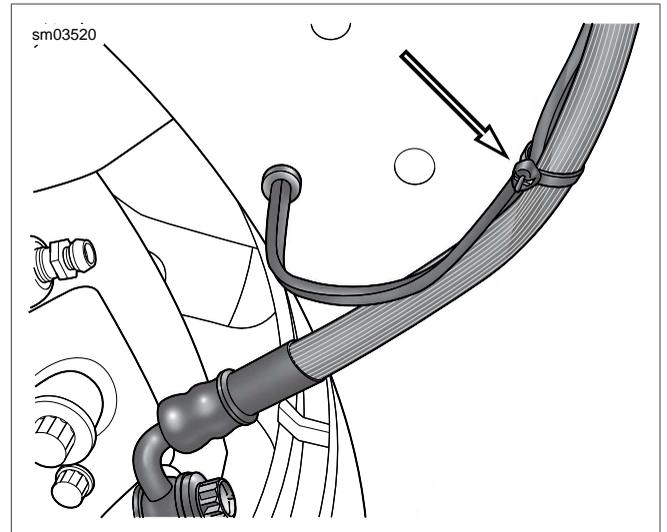

Figure 2-46. Capture Brake Hose and Front Fender Tip Lamp Wires
- c. Carefully cut cable strap to release front fender tip lamp wires from left brake caliper hose. See Figure 2-46.
- c. Install **new** cable strap to secure front fender tip lamp wires to left brake caliper hose. See Figure 2-46.
wires to left brake caliper hose. See Figure 2-46.